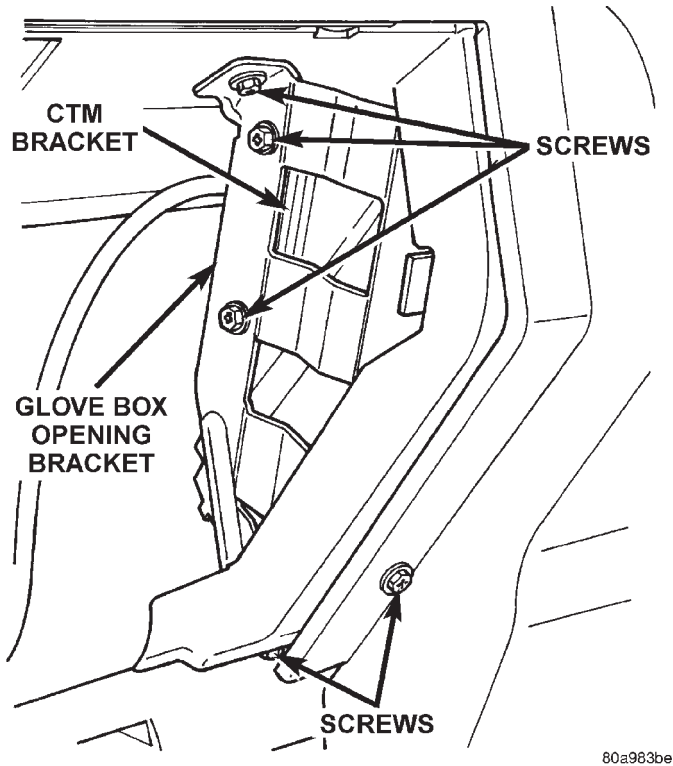

Fig. 26 Central Timer Module Remove/Install
(1) Disconnect and isolate the battery negative cable.
(2) Remove the glove box from the instrument panel. See Glove Box in the Removal and Installation section of this group for the procedures.
(3) Remove the three screws that secure the bracket to the outboard side of the instrument panel glove box opening (Fig. 26).
(4) Remove the two screws that secure the Central Timer Module (CTM) mounting bracket to the outboard instrument panel glove box opening bracket.